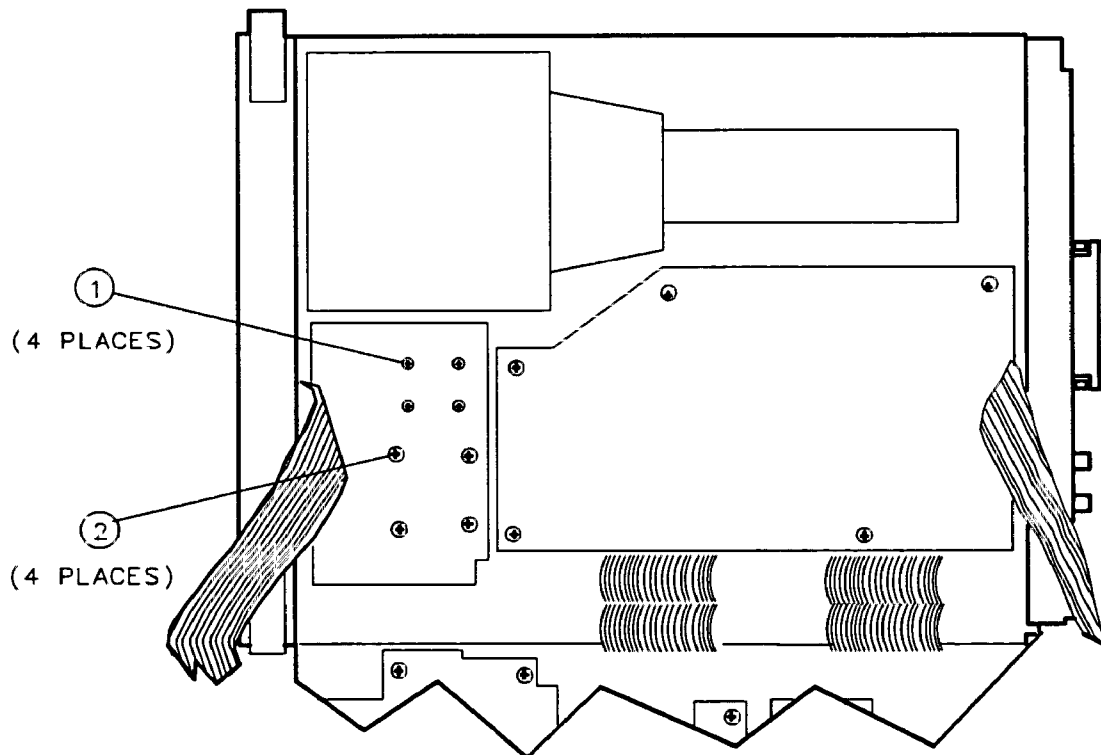

Figure 3-19. A10 Mounting Screws
4. Remove four screws (1) securing A10 to the center deck. These screws are located on the top-side of the center deck as illustrated in Figure 3-19. *Screws (2) are identified for another replacement procedure.*
4. Tilt the analyzer on its right-side frame allowing access to the four A11 mounting screws (2) illustrated in Figure 3-19. Remove the screws while holding onto A11.